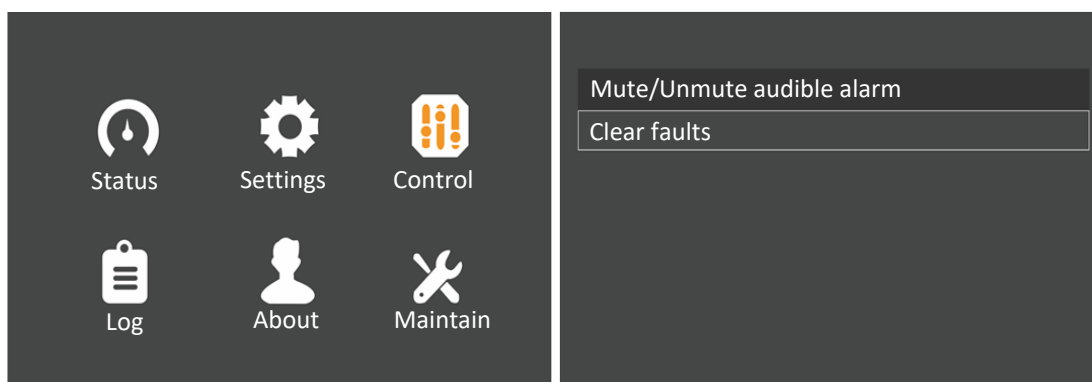

Figure 5-11 Control Page
1. Access the main menu screen (see Figure 4-10). Use  or  key to select the 'Control' page, see Figure 5-11. Click the 'Clear faults' button, and press  key to make the system exit the REPO/abnormal OFF state, and the alarm indicator in red color is turned off.